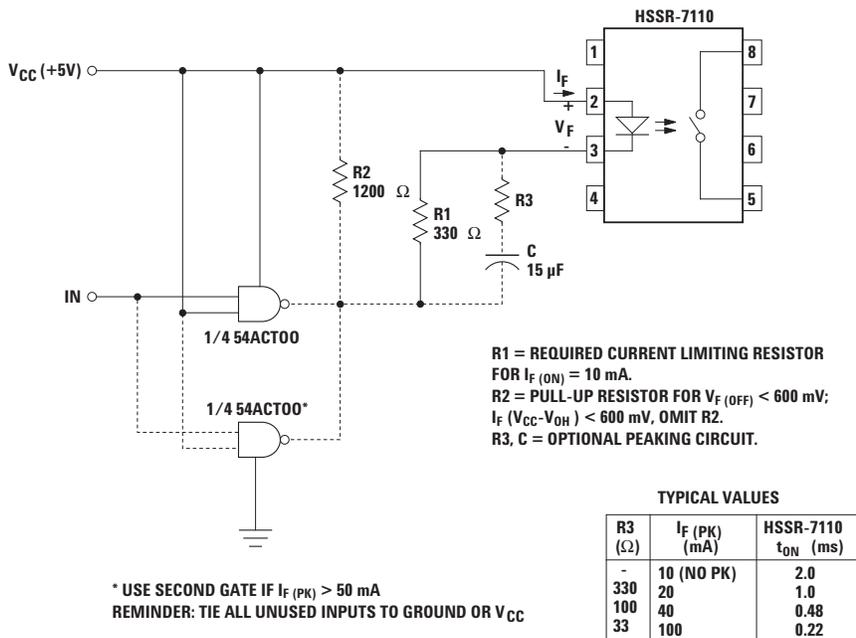

Figure 1. Recommended Input Circuit.
- For a faster turn-on time, the optional peaking circuit shown in Figure 1 may be implemented.
**Input Circuit:** The drive circuit of the electro-mechanical relay coil needs to be modified so that the average forward current driving the LED of the HSSR-7110 does not exceed 20 mA. A nominal forward drive current of 10 mA is recommended. A recommended drive circuit with 5 volt VCC and CMOS logic gates is shown in Figure 1. If higher VCC voltages are used, adjust the current limiting resistor to a nominal LED forward current of 10 mA. One important consideration to note is that when the LED is turned off, no more than 0.6 volt forward bias should be applied across the LED. Even a few microamps of current may be sufficient to turn on the HSSR-7110, although it may take a considerable time. The drive circuit should maintain at least 5 mA of LED current during the ON condition. If the LED forward current is less than the 5 mA level, it will cause the HSSR-7110 to turn on with a longer delay. In addition, the power dissipation in the output power MOSFETs increases, which, in turn, may violate the power dissipation guidelines and affect the reliability of the device.